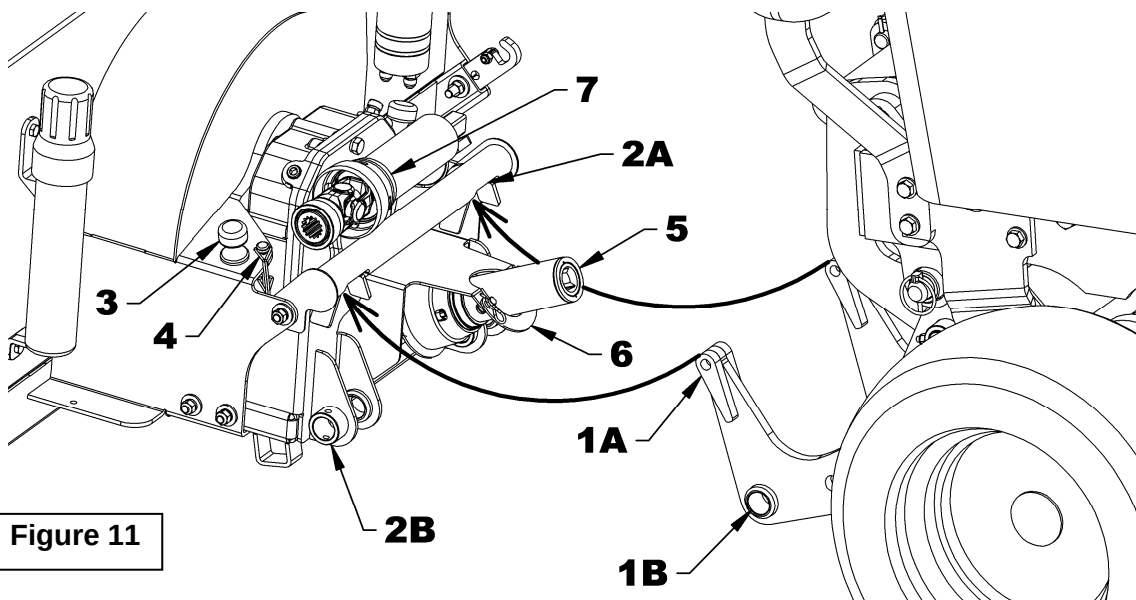

Figure 11
PRECAUTIONS BEFORE each connection (figure 11)
Steps to Connect the Snowblower (figures 11 to 17)
- **STEP 1:** **Figure 11:** Start the tractor, remove the parking brake, slowly move forward, making sure that the snowblower female hitch is properly aligned with the tractor male hitch. Lower the tractor male hitch sufficiently so that the two upper ends of the hitch (item 1A) can fit into the tube openings (item 2A) of the snowblower female hitch.
- **STEP 2:** **Figure 11:** Using the tractor hydraulic control lever, lift the snowblower completely upward to position the snowblower hitch with the tractor male hitch. This step will allow the male hitch bushings (item 1B) to align well with the bushings of the female hitch of the snowblower (item 2B).